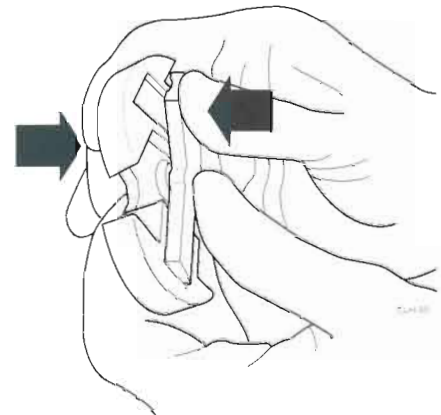

Figure 6.23 Assembling the Clutch Shoes
STEP 4. Using hand pressure only, assemble the clutch shoes and spring(s) to clutch boss "B" in the reverse order of disassembly. (Figure 6.23)